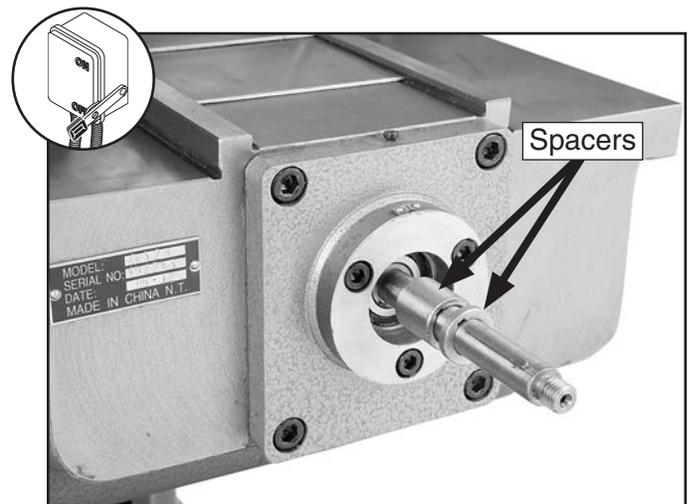

Figure 69. Ball handle and graduated dial removed from Y-axis lead screw.
3. Remove the Y-axis ball handle acorn nut with a 19mm wrench, then remove the handle and graduated scale assembly from the lead screw (see **Figure 69**).